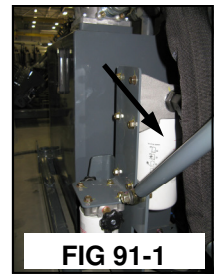

FIG 91-1
**ENGINE LUBE FILTER**– The engine lube filter (oil filter) (fig. 91-1) should be changed every 500 hours or anytime that the oil is changed.